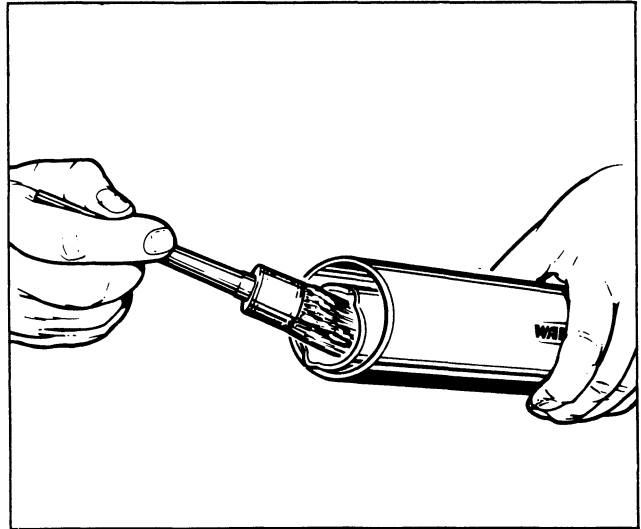

Figure 20
12. Apply grease to the outside of the inner (male) driveline section as shown in Figure 20. Assemble the driveline and install on the tractor and implement. Pull on each driveline section to be sure the yokes lock into place. Make certain the driveline shielding is in place.